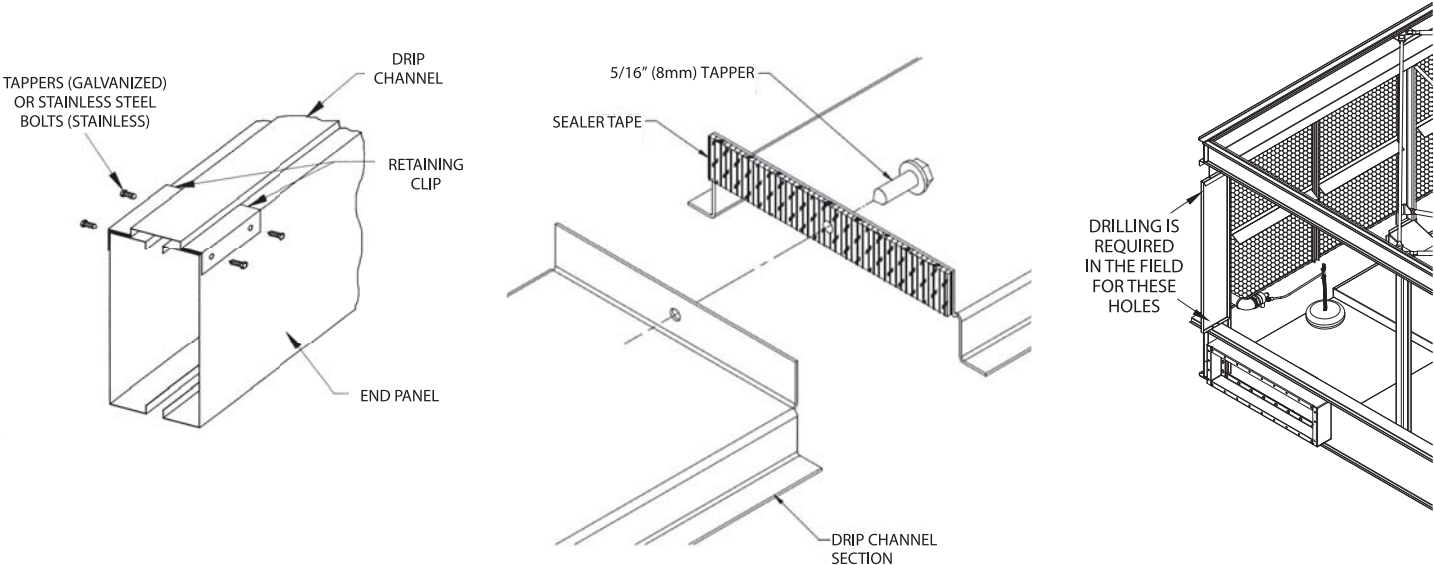

Figure 2a - Drip Channel and Vertical Splash Guard Installation
10. Place the vertical splash guard in the bend of the vertical supports. On galvanized units, attach the vertical splash guard using 5/16" (8mm) self-tapping screws. On stainless steel units, attach the vertical splash guards using 5/16" (8mm) stainless steel nuts and bolts. (See figure 2a)